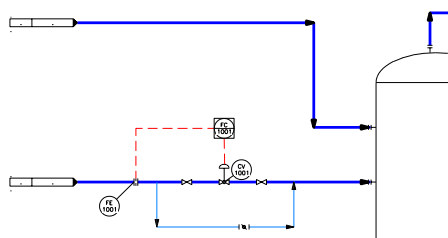

Figure 2-86 Off page connectors placed at the endpoints of the feed line and reflux line
3. Similarly, place the off page connectors at the locations shown in Figures 2-86 and 2-87.